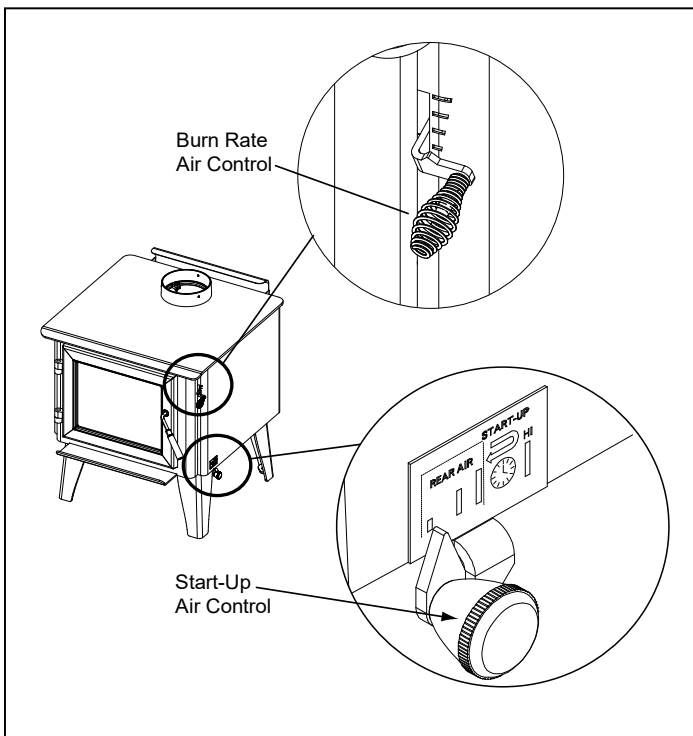

Figure 10.1
2. **Second Stage:** The next stage of burning, the secondary stage, is the period when the wood gives off flammable gases which burn above the fuel with bright flames. During this stage of burning it is very important that the flames be maintained and not allowed to go out. This will ensure the cleanest possible fire. If the flames tend to go out, it is set too low for your burning conditions. The air control located at the upper right hand corner is used to adjust for burn rates. This is called the **Burn Rate Air Control (Figure 10.1)**.
- Then activate the ACC timer system by pushing the knob all the way back toward the appliance to I then pull forwards towards the front of the appliance until the knob stops **Figure 10.1**.